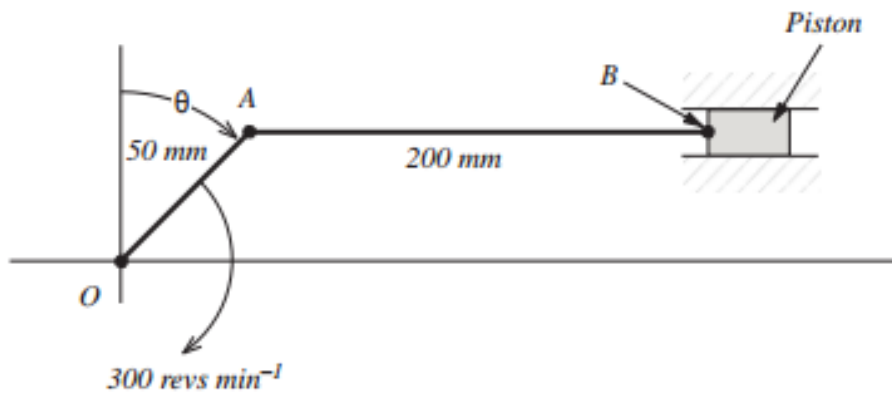

FIG. 1
1. (a) For the mechanism shown in FIGURE 1 determine for the angle $\theta = 45^\circ$: